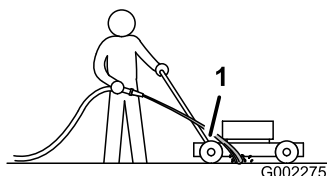

Figure 23
3. Hold the running garden hose at handle level and direct the water to flow on the ground just in front of the right rear wheel (Figure 23).